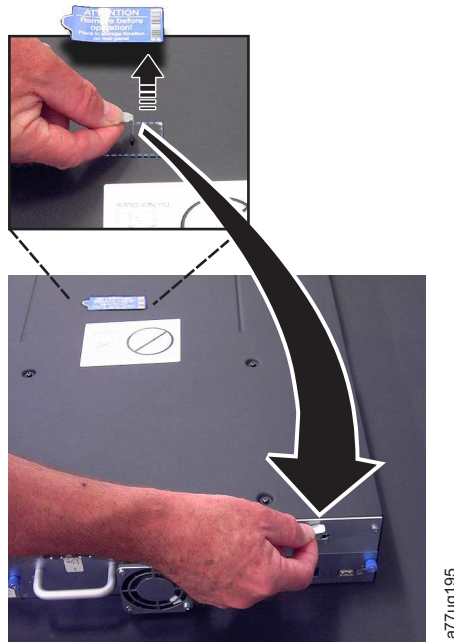

Figure 173. Removing the shipping label and lock from the top of the library and storing on the rear panel
4. Remove the shipping lock from the top of the replacement library enclosure (see Figure 173 on page 236).